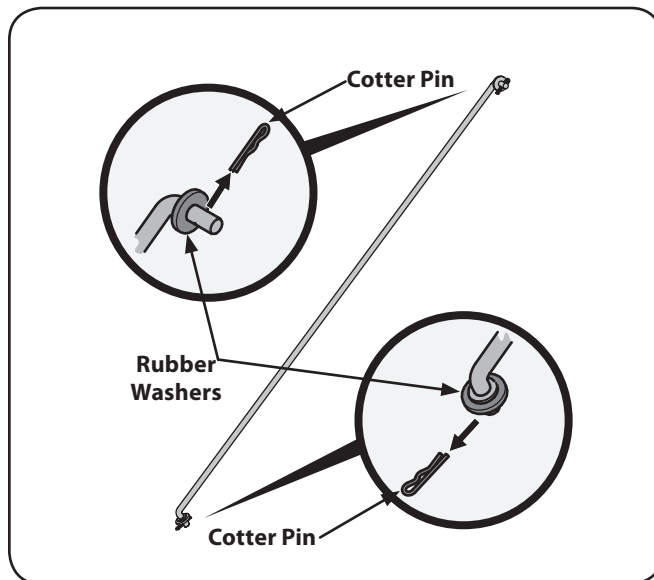

Figure 3-6
2. Remove the cotter pins from the control rod, leave the rubber washers on the control rod. See Fig. 3-6.